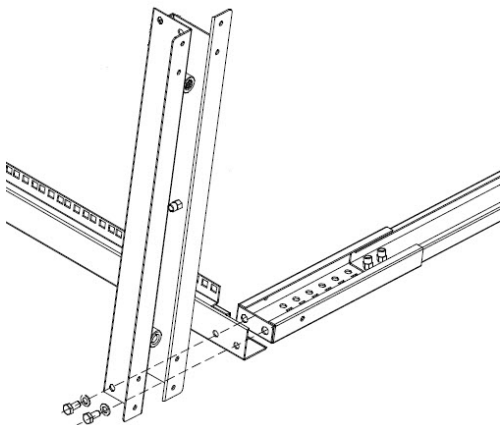

Figure 4
4. Insert four **M8 Bolts** through four **M8 Washers** and into the holes in the **Base Bracket**, **Vertical Rails**, and the **Center Section Assembly**. (Figure 4)